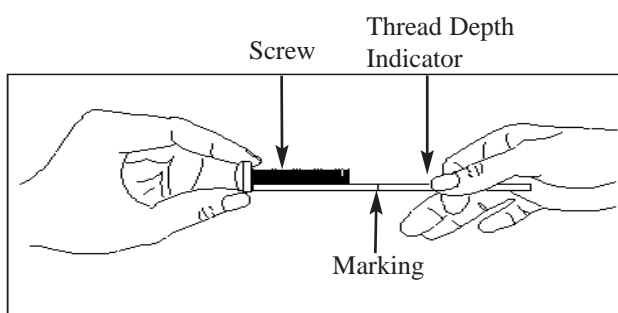

Figure 2
- Step 4. The screw length must not bypass the marking. Select another screw size (Figure 2 and 3), until you find one that comes closest to your mark without going past.